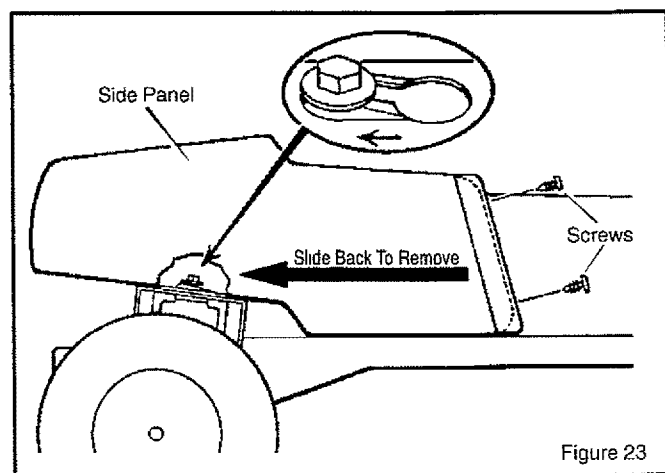

Figure 23
2. Remove the large **screws** that hold the front of the side panel (Figure 23).